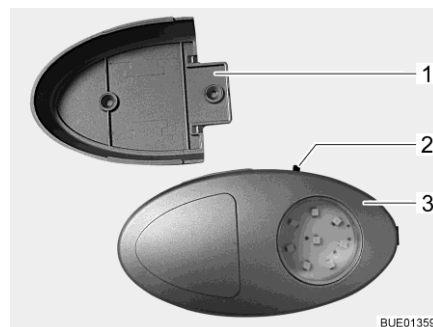

Fig. 81 Wardrobe light/torch
- ▷ The wardrobe light can be removed from its holder (Fig. 81,1) and used as a torch.
The On/Off switch (Fig. 81,2) is located directly on the wardrobe light (Fig. 81,3).